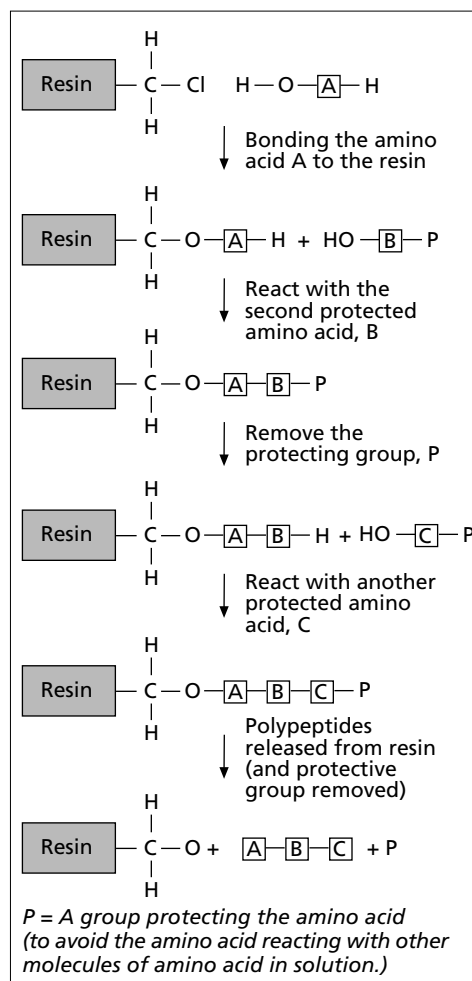

Figure 3. Forming a polypeptide
- The $-\text{CO}_2\text{H}$ group of the first amino acid, A, is bonded to a $-\text{CH}_2\text{Cl}$ group attached to the polystyrene resin. This is the link (Fig 3).